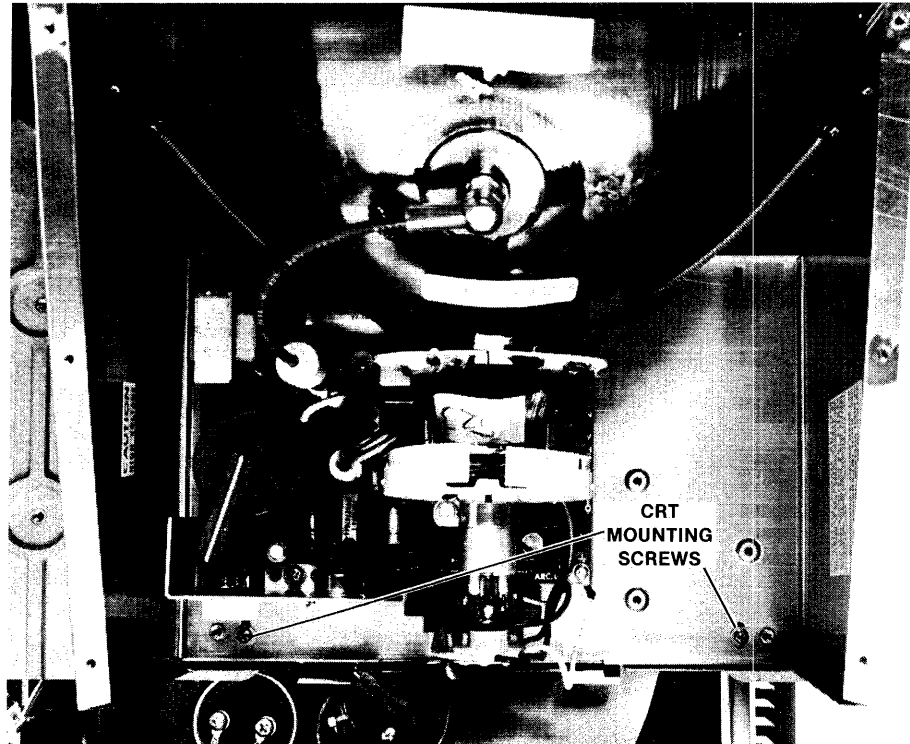

Fig. 4-11 CRT Mounting Screws
4. Remove the four screws that hold the CRT unit to the chassis member. Slide the CRT unit to the side of the chassis. It is not necessary to remove it completely. See Figure 4-11.